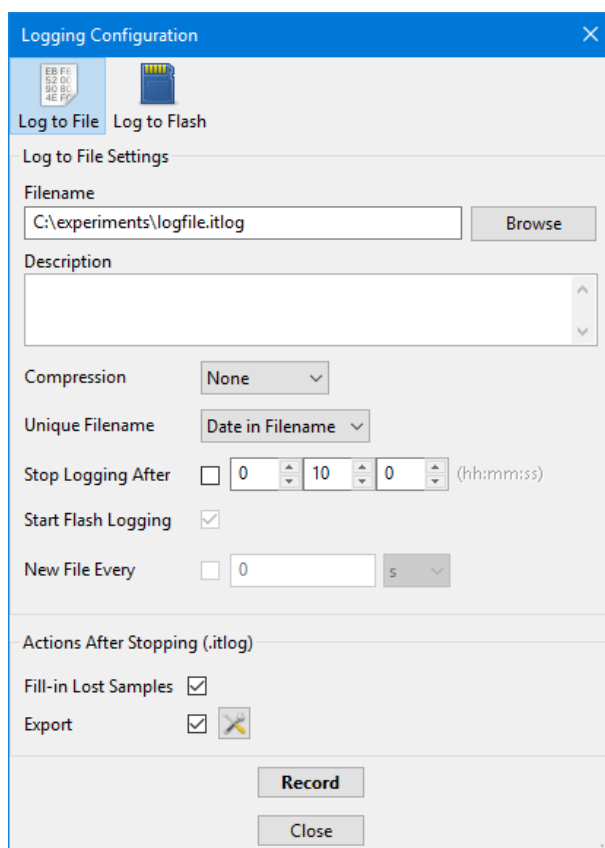

Figure 18: Log to File Configuration
1. By using the *Record* button from the toolbar; to change the settings for creating a log file, select the *Log to File...* option from the drop-down menu of the *Record* button; this option opens the *Logging Configuration* window for logging to file (see Figure 18).
2. By selecting the *Log to File...* option from the *File* menu, *Record* item; this option opens the same *Logging Configuration* window for logging to file (see Figure 18).